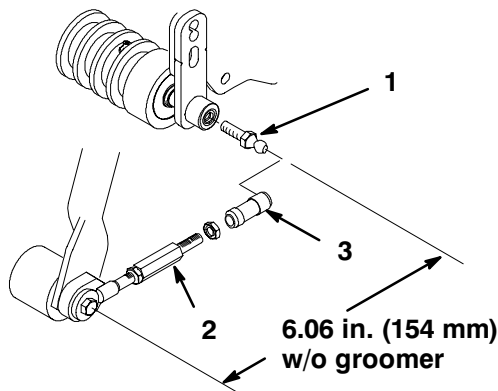

Figure 13
4. Thread a ball stud into each end of the cutting unit front roller (Fig. 13).
6. Slide the sleeve back on each ball joint receiver and hook the receiver onto the cutting unit ball stud (Fig. 13).
Note: The pull link assemblies are preset at the factory. If they ever need to be disassembled, reassemble them to the dimensions shown in Figure 13.